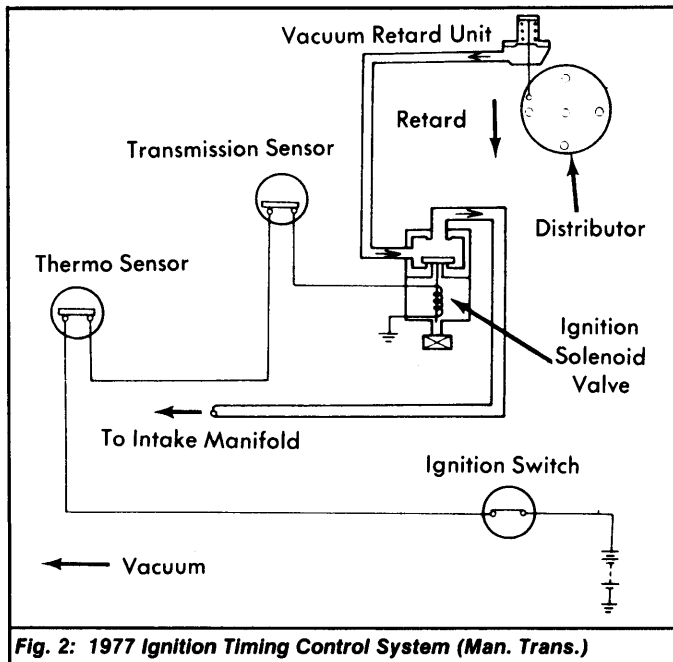

Fig. 2: 1977 Ignition Timing Control System (Man. Trans.)
**1977 Manual Transmission Equipped Models** - 1) With engine cold, start engine and check for vacuum at distributor retard vacuum unit. There should be no vacuum present. If vacuum is present, disconnect thermo sensor. If vacuum remains, replace ignition solenoid valve. If vacuum drops slightly, replace thermo sensor. See Fig. 2.